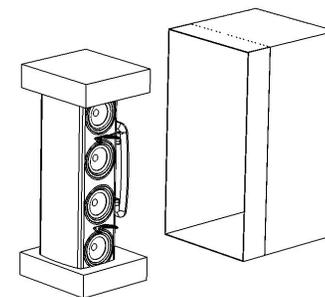

FIG.3
3. Pull the cabinet+base out. (FIG.3)